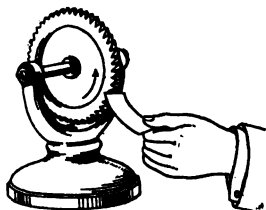

FIG. 359. — The pitch varies with the speed.
**389. Pitch.** When we speak of a musical note as high or low, we refer to its pitch. When we strike the keys of a piano in succession, beginning at one end of the keyboard, we recognize the difference in the tones produced as a difference in pitch. By holding a card against the teeth of a rapidly revolving wheel (Fig. 359) we can show that the **pitch** of the note produced depends on the **number of vibrations per second**; that is, upon the frequency of the vibrations.